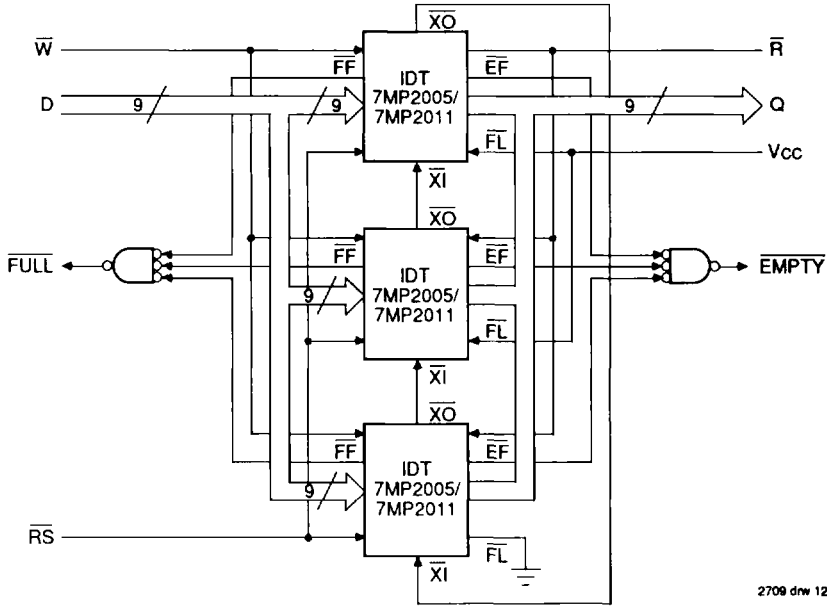

Figure 10. Block Diagram of 24,576 x 9/49,152 x 9 FIFO Memory (Depth Expansion)
The IDT7MP2005/2011 can easily be adapted to applications when the requirements are for greater than 8,192/16,384 words. Figure 10 demonstrates Depth Expansion using three IDT7MP2005/2011. Any depth can be attained by adding additional IDT7MP2005/2011s. The IDT7MP2005/2011 operate in the Depth Expansion configuration when the following conditions are met:
3. The EXPANSION OUT (\overline{XO}) pin of each device must be tied to the EXPANSION IN (\overline{XI}) pin of the next device. (See Figure 10.)
4. External logic is needed to generate a composite FULL FLAG (\overline{FF}) and EMPTY FLAG (\overline{EF}). This requires the logical ANDing of all \overline{EF} s and logical ANDing of all \overline{FF} s (i.e. all must be set to generate the correct composite \overline{FF} or \overline{EF}). (See Figure 10.)
1. XI is connected to XO of previous device. See Figure 10.
1. For depth expansion block see DEPTH EXPANSION Section and Figure 10.